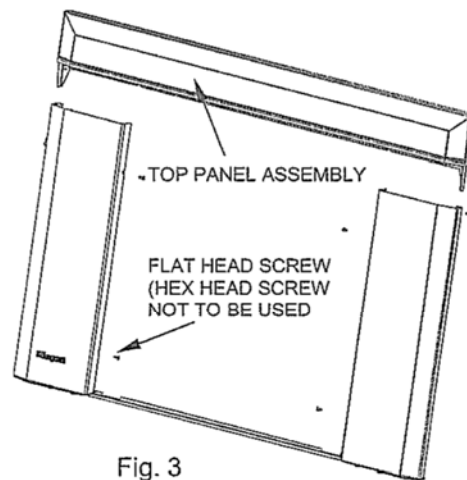

Fig. 3
6. Offer the fascia assembly up to the case once more and secure through the two holes on the inner edges of each fascia side panel and two holes of top panel assembly using the screws provided. (see fig.3)